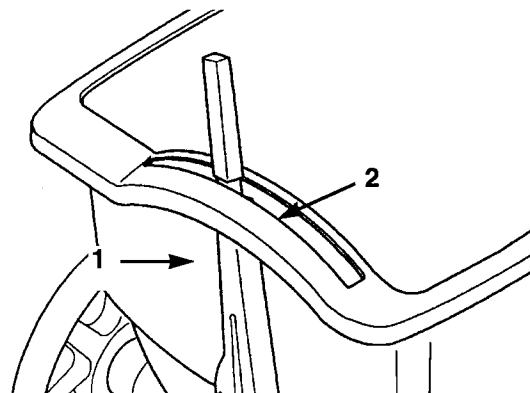

Figure 12
12. Insert the handle end of the hopper lever through the slot in the hopper (Fig. 12).